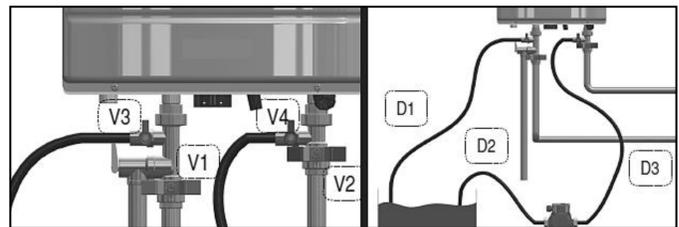

Figure 51 - Flushing the Water Heater
2. Close the shutoff valves on both hot water outlet and cold water inlet lines (V1 and V2). See Figure 51.
3. Connect one hose (D1, Figure 51) to the valve (V3) and place the free end in a bucket. Connect one of the hoses (D3) to the circulation pump outlet and the cold water inlet line to valve V4. Connect the other hose (D2) to the circulation pump inlet and place the free end in the bucket.